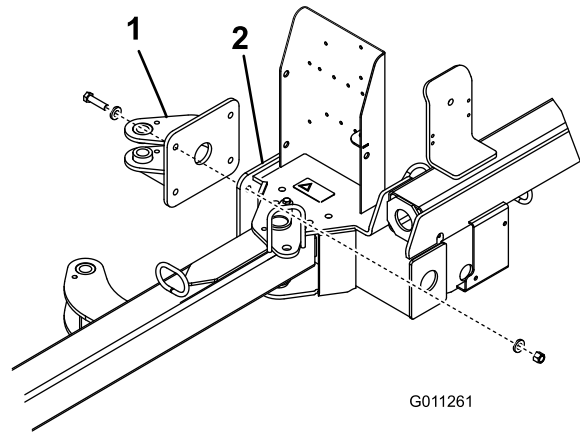

Figure 5
1. Mount the rear actuator tab to the sweeper frame with 4 bolts (1/2 x 2 inch), 8 flat washers (.531 x .063), and 4 locknuts (1/2 inch). Position the components as shown in Figure 5.